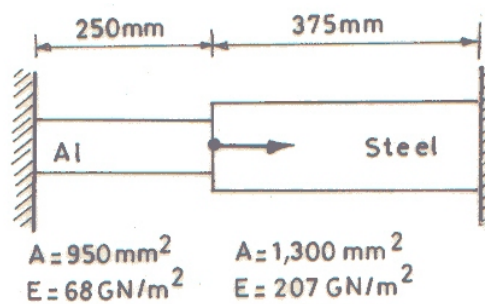

Fig. 3
5. A composite bar as shown in Fig 3 is firmly attached to unyielding supports at the ends and is subjected to the axial load F . If the aluminum is stressed to 70 MPa , what is the stress in the steel?.